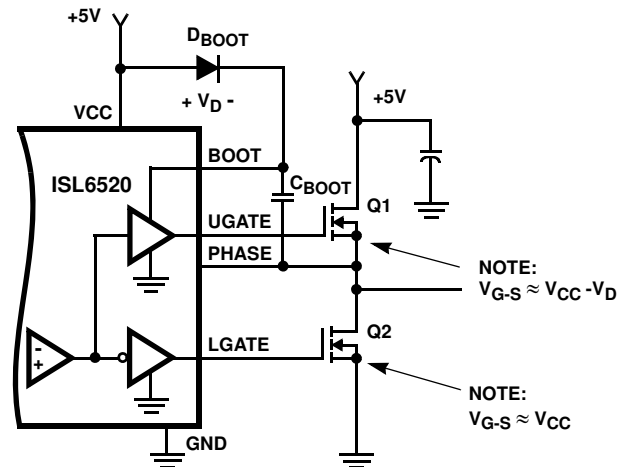

FIGURE 7. UPPER GATE DRIVE BOOTSTRAP
The compensation network consists of the error amplifier (internal to the ISL6520) and the impedance networks ZIN and ZFB. The goal of the compensation network is to provide a closed loop transfer function with the highest 0dB crossing frequency (f0dB) and adequate phase margin. Phase margin is the difference between the closed loop phase at f0dB and 180 degrees. The equations below relate the compensation network's poles, zeros and gain to the components (R1, R2, R3, C1, C2, and C3) in Figure 7. Use these guidelines for locating the poles and zeros of the compensation network:
Figure 7 shows the upper gate drive (BOOT pin) supplied by a bootstrap circuit from VCC. The boot capacitor, CBOOT, develops a floating supply voltage referenced to the PHASE pin. The supply is refreshed to a voltage of VCC less the boot diode drop (VD) each time the lower MOSFET, Q2, turns on.